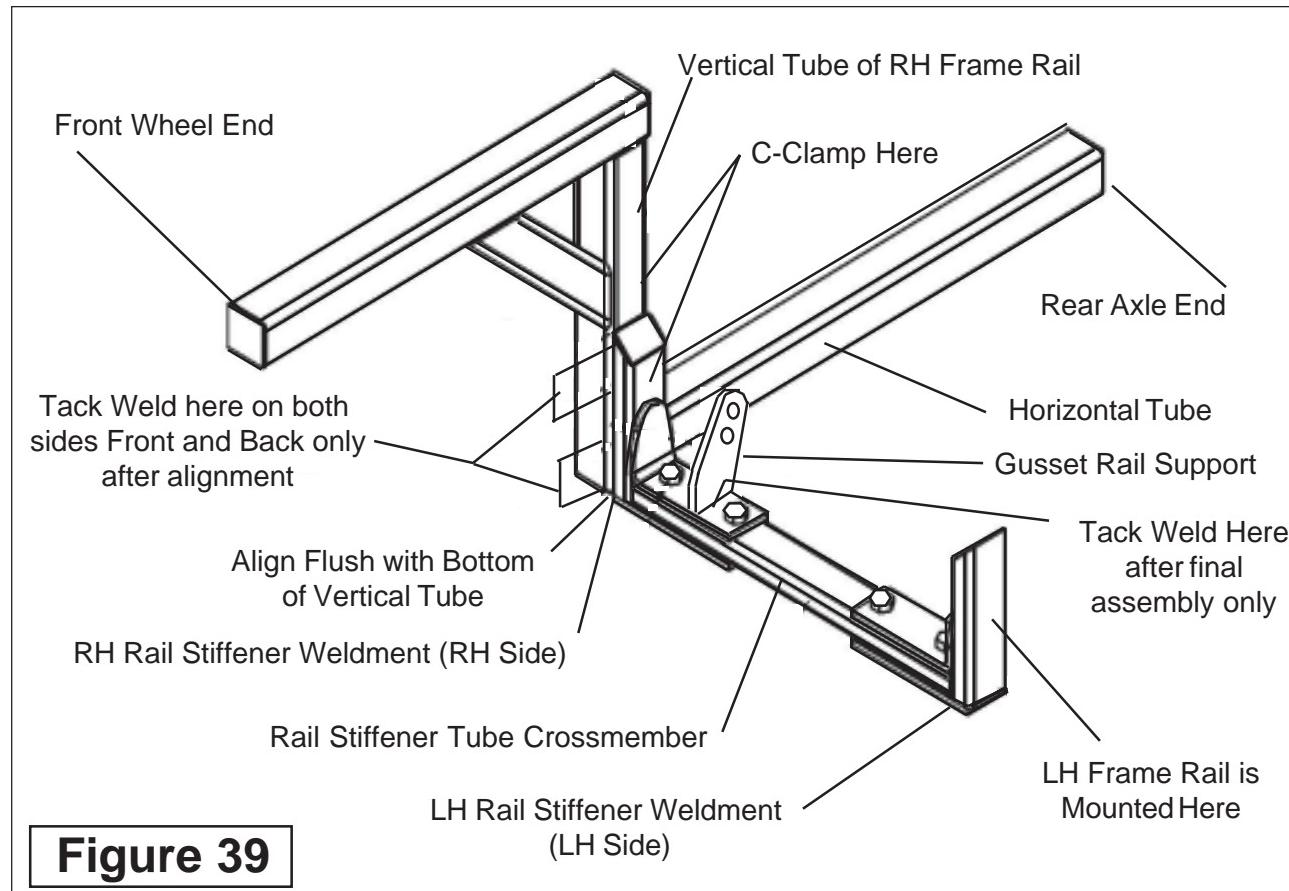

Figure 39
2. Tack Weld Frame rails to Frame Rail Stiffener. Tack Weld the frame Stiffener Brackets to the Frame Rails, but be sure you DO NOT tack Weld the Stabilizer Gusset at this time (**See Figure 38**). The reason for not welding the stabilizer gusset at this time is because it would make it more difficult for you when you remove the High Frame and Frame rails for final welding. The Tube Crossmember of the Frame Stabilizer can be removed now. Remove the four mounting bolts and slide the Tube forward or back to get it out. (**See Figure 39**).